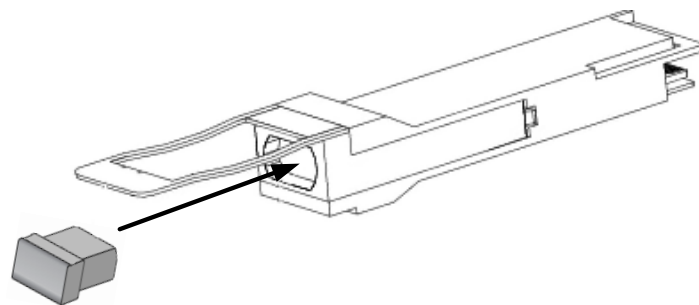

Figure 20: Inserting dust covers into the QSFP+ module
5. Insert the clean dust covers into the module, as shown in Figure 20.